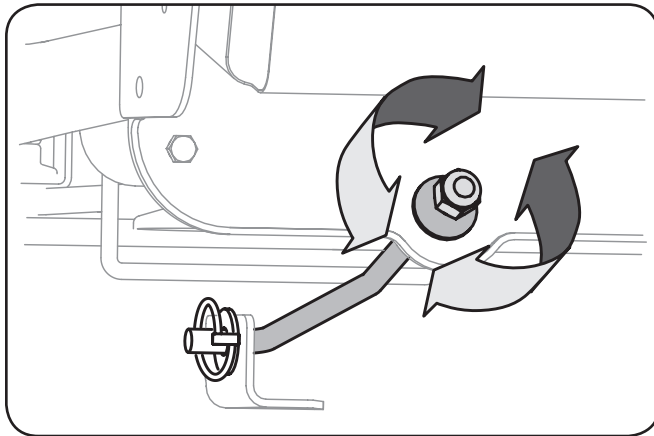

Figure 6-5
1. Locate the nut on the front side of the stabilizer bracket. See Fig. 6-5.